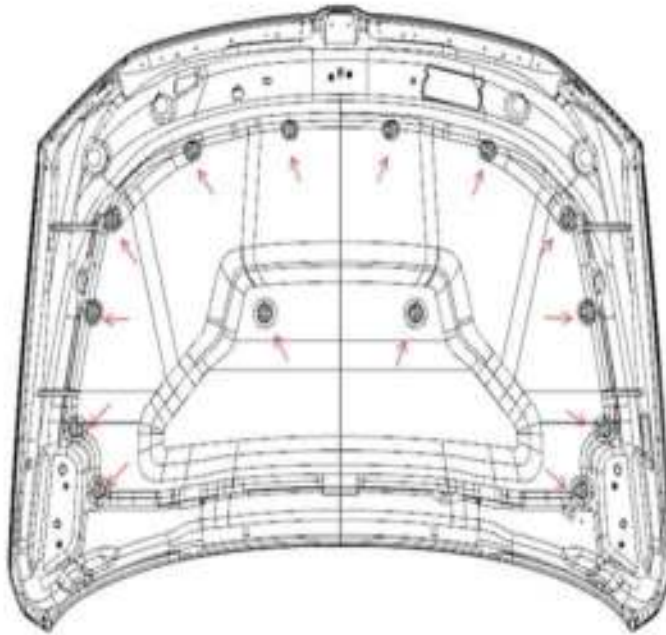
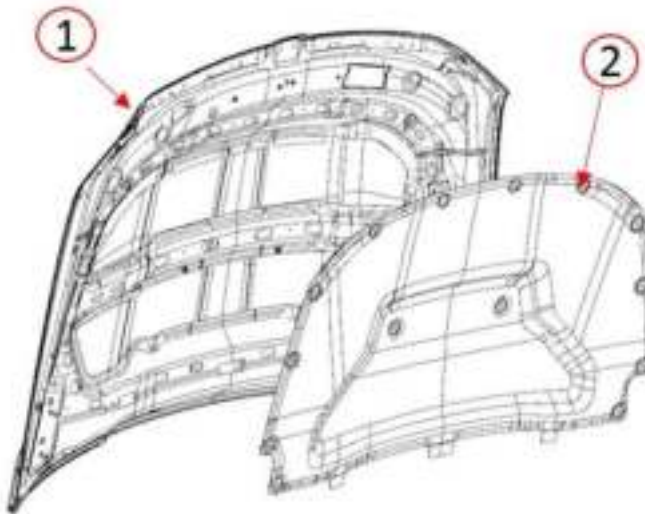

Fig. 1
Fig. 2
2. Remove and discard the (14) push pins (Fig. 1) from silencer pad.
3. Remove the Hood Silencer pad (Fig. 2) .
9. After one hour of the urethane cure time, reinstall the hood silencer pad (Fig. 2) using (14 new push pins, MOPAR #04878883AA) (Fig. 1) .